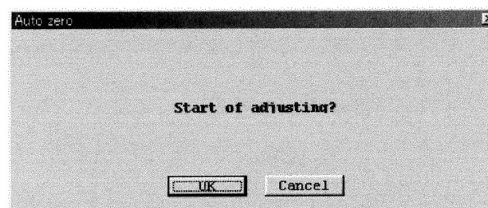

Fig.98
- ③ A message box like the one in Fig. 98 appears. If you want to run a zeroing, click on "OK". To abort it, click on "cancel".